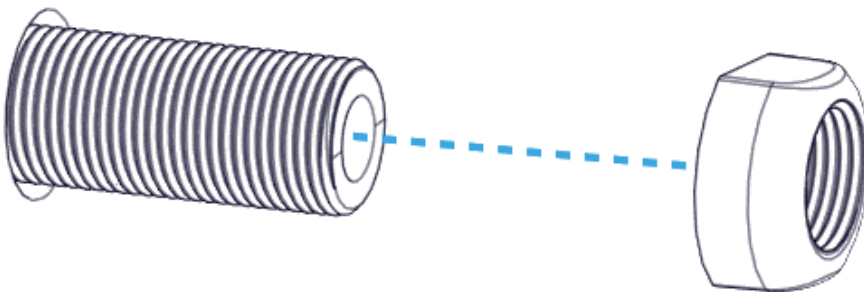

Figure 49 – Outboard Cable Gland Nut Installation
5. Install the Nut on the outboard side of the transom. Tighten until the Nut contacts the transom. Do not overtighten (Figure 49 – Outboard Cable Gland Nut Installation).